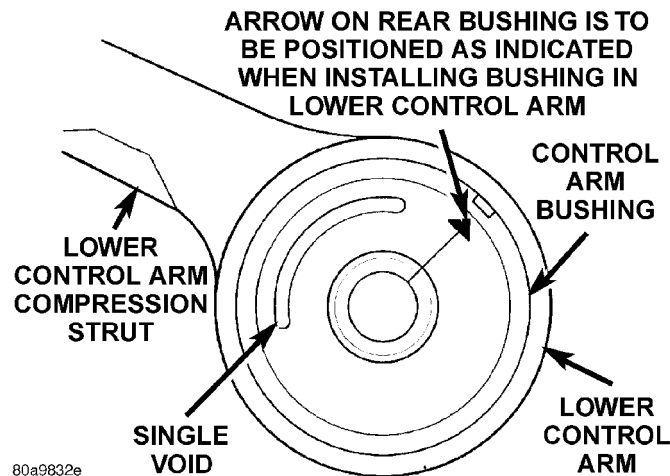

Fig. 78 Correct Installation Of Bushing In Lower Control Arm
(1) Install the rear bushing into the lower control arm in the direction indicated in (Fig. 78). **Rear bushing must be positioned in lower control arm with the void in the bushing pointing toward the compression strut of the lower control arm as shown in (Fig. 78).**